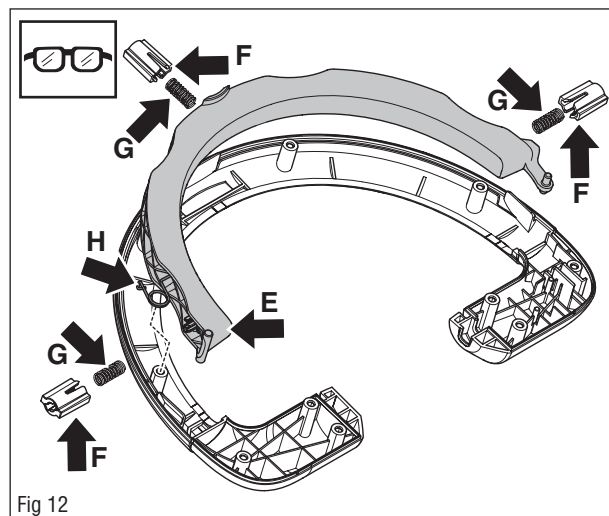

Fig 12
Place the start inhibitor (F), plastic clips (G) and springs (H) in the handle. See figure 12.